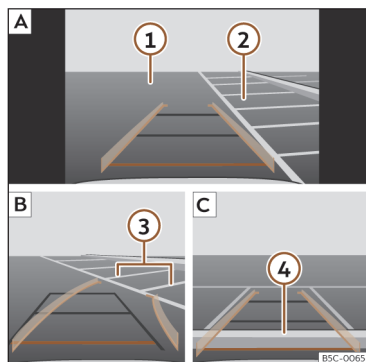

Fig. 155 Display on the infotainment system screen: parking with the reverse assistant.
Key to the >>> **Fig. 155:**
- Stop the vehicle in front of the parking space >>> **Fig. 155** ② **A**.
- Reverse while turning the steering wheel so that the yellow lines enter the parking space. The green and yellow lines must match the side boundary lines ③ **B**.
- Stop the vehicle when the red line has reached the rear boundary ④ **C**.